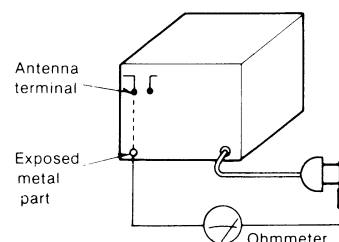
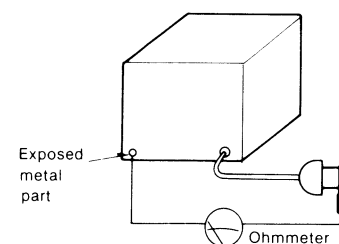

Fig. 1
Fig. 2
3. Measure the resistance value with ohmmeter between the jumpered AC plug and each exposed metal cabinet part, such as screwheads, antenna, control shafts, handle brackets, etc. Equipment with antenna terminals should read between $3\text{M}\Omega$ and $5.2\text{M}\Omega$ to all exposed parts*. (Fig. 1) Equipment without antenna terminals should read approximately infinity to all exposed parts. (Fig. 2)